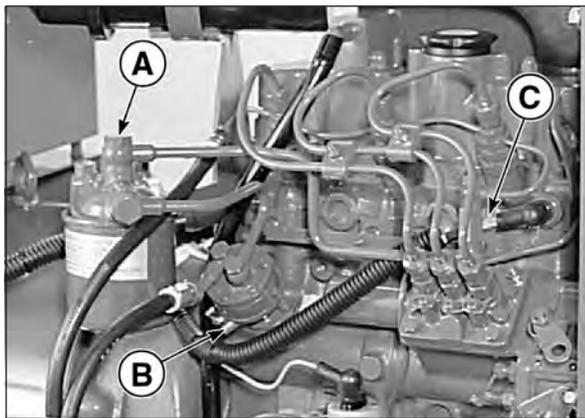

Figure 6: The Fuel System - the NL773LW3 varies slightly from this depiction
2. Loosen bleed bolt “A” (Figure 6) on top of the filter. Pump hand primer “B” on fuel lift pump until pure fuel (no bubbles) escapes from bleed bolt “A”. Tighten bleed screw “A”.